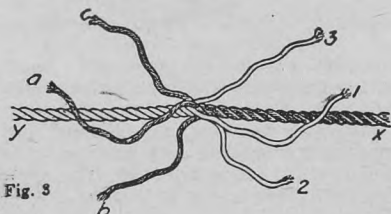
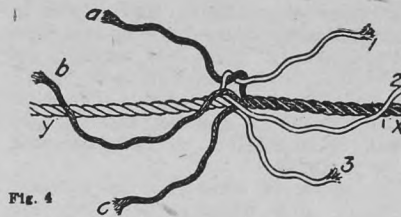

Fig. 3
Fig. 4
If there is a straight pull and the rope doesn't have to pass through a pulley, a short splice will do. The steps in making this splice are shown in (figs. 3, 4, 5 and 6). The two ends are unwound and then locked together so that those from one end pass alternately between those from the other end. Taking two strands from opposite sides, (a) and (1), (fig. 3) tie a simple knot (fig. 4). Repeat with (b) and (2) and with (c) and (3). Draw the knots tightly, then passing each strand of the rope diagonally to the left, tuck the ends under the strands of rope (y). Then turn the rope end for end and repeat by splicing down the strands of rope (y) (fig. 5). When the splice is completed each strand from both ropes should be spliced under at least two places, depending on the size of the rope and the strain it has to carry. The splice can be made, of course, without